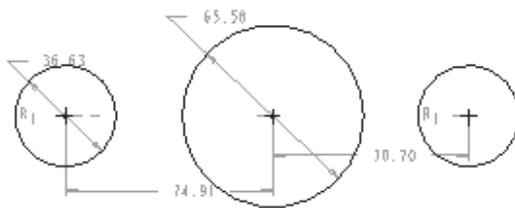

Figure 2-28 Three circles with weak dimensions and constraints
- Choose the **Create circle by picking the center and a point on the circle.** button. Draw the three circles as shown in Figure 2-28.